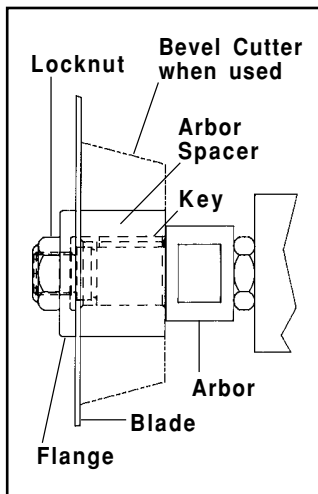

FIG. 3
- b. Long Arbor - (for cutting & beveling PVC) Install the bevel cutter (small edge toward motor) or the arbor spacer (for cutting only) over the key on the arbor. Install the blade on the 5/8 diameter arbor shoulder (Fig. 3). Install the flange with the relieved side toward the blade and screw on the locknut. While holding a wrench (supplied) on the 7/8 arbor flats, tighten the arbor locknut. The blade must seat fully on the arbor shoulder and flush against the bevel cutter or arbor spacer.